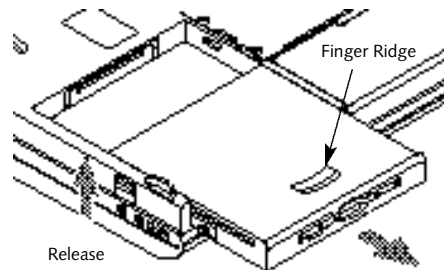

Figure 4-2 Removing a Module from the Multi-function Bay
4. With the module connector toward the back of your notebook align the grooves on the side of the module with the tracks in the side of the bay. (Figure 4-2.)